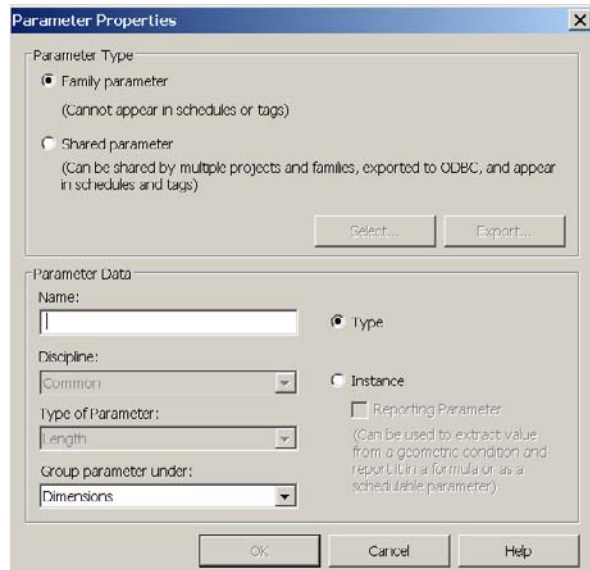

Figure 7.63
4. Select the 30' (10 m) dimension, open the label drop-down list on the Options bar, and then choose Add Parameter. This will open the Parameter Properties dialog box where the parameter will be created as shown in Figure 7.63.